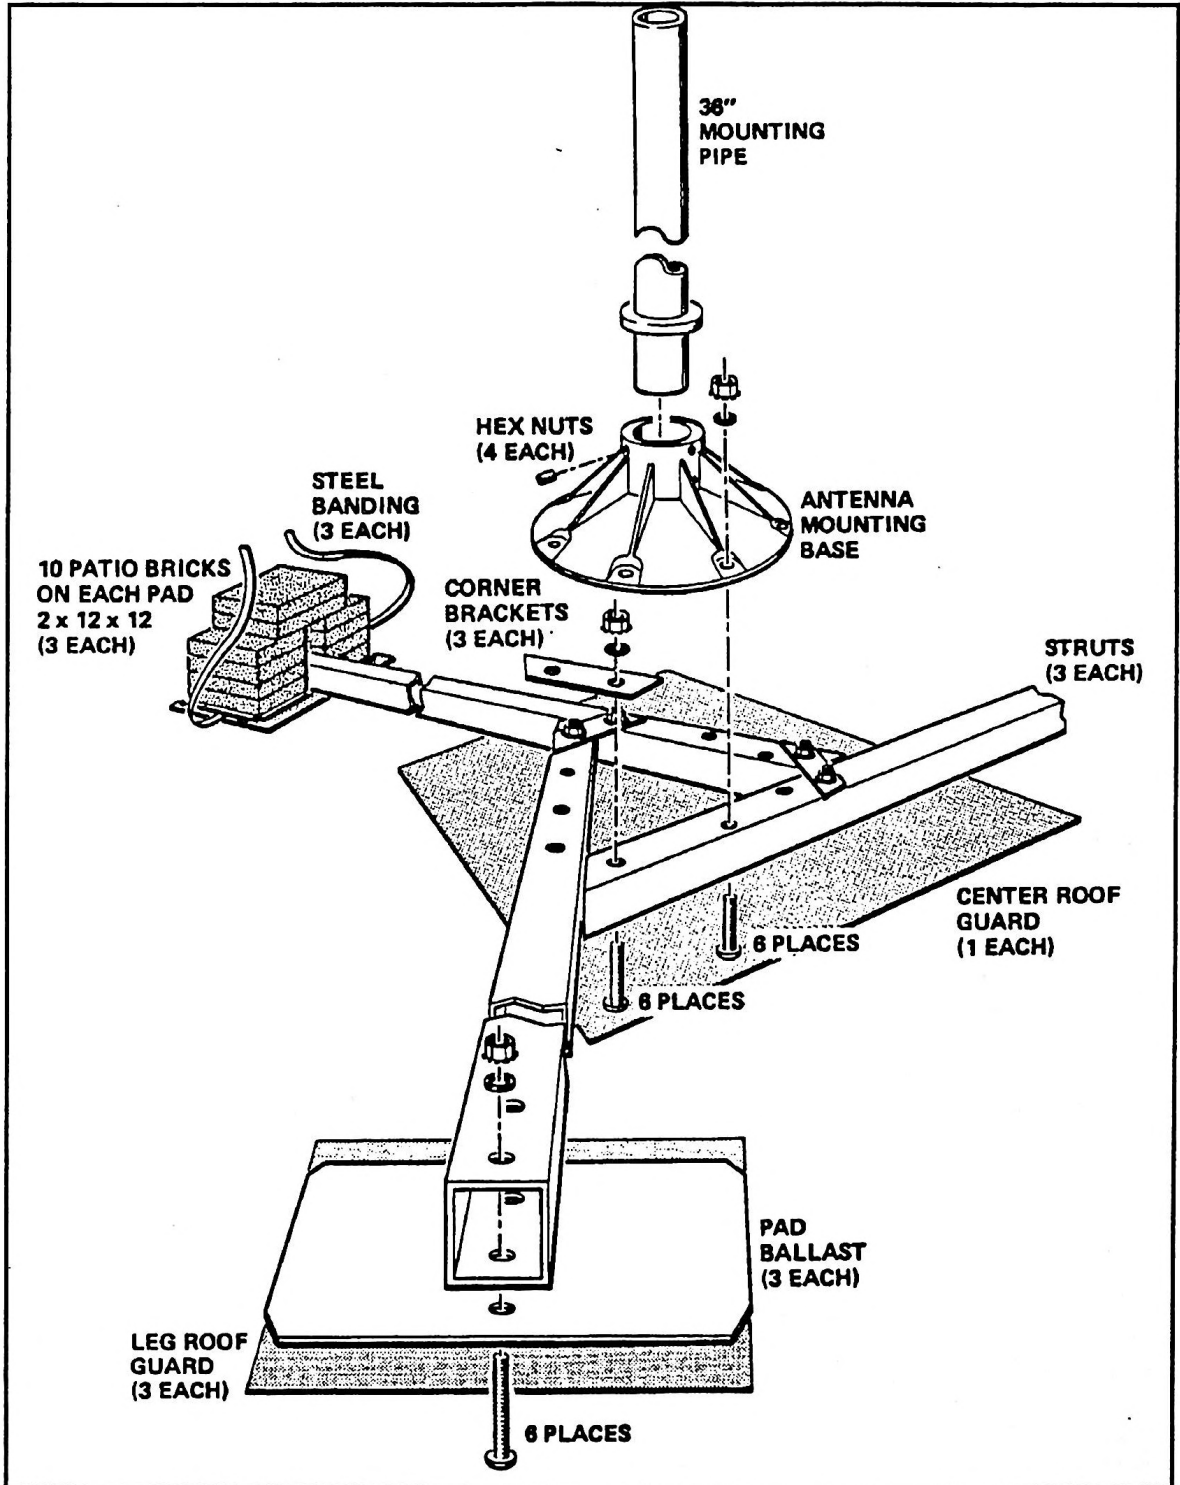

Figure 5-1. Aluminum Base Mount
The aluminum base is constructed of three platform beams assembled in such a way to form a solid three-legged base to support the antenna and associated hardware. The three-legged base is illustrated in Figure 5-1. If installed on a flat roof, the base may be mounted without bolting it to the roof. To ensure this deadweight platform will not move in high winds, thirty 12"x12"x2" patio bricks should be distributed along, and strapped to, the aluminum base. The dead weight should total approximately 220 pounds on each of the legs. The weights should be strapped using 1/2-inch steel banding.
1. Locate each of the three base struts labeled 1, 2, and 3. Place the struts as shown in Figure 5-1.
2. Attach the three struts together using the corner brackets as shown in Figure 5-1. Secure the corner brackets to the struts using six 3/8-16 x 4" carriage bolts, flat washers, and 3/8" keps nuts.